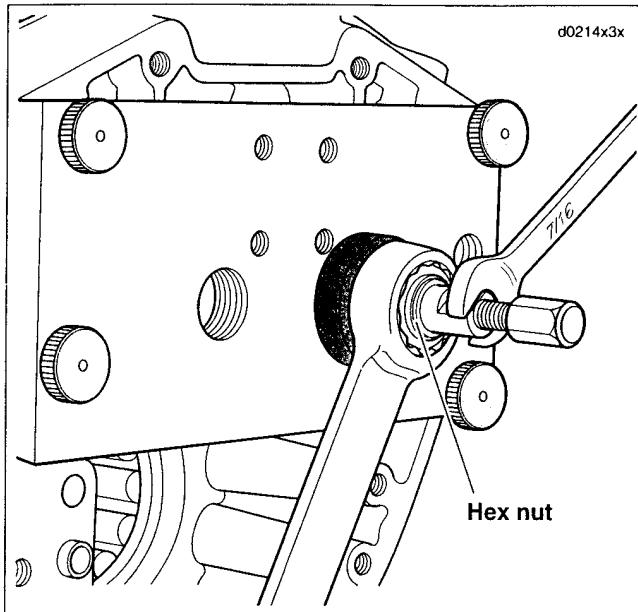

Figure 3-145. Turn Hex Nut Clockwise to Remove Bearing
11. See Figure 3-145. Using a 15/16 in. open end wrench, turn hex nut in a clockwise direction until bearing is free. If necessary, hold flat on collet to prevent rotation.